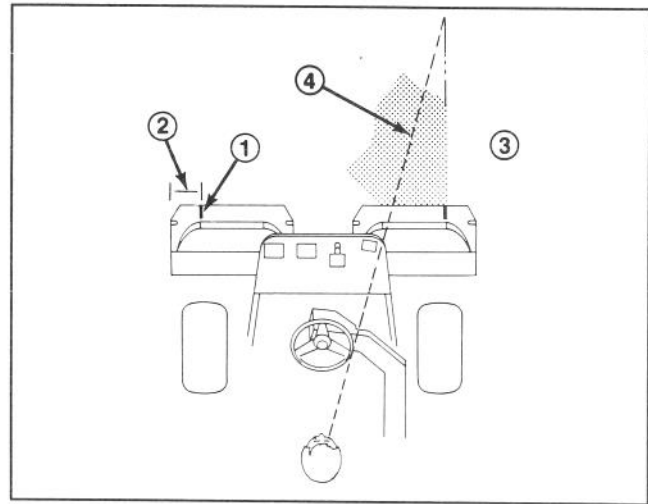

Figure 22
2. Either place a strip of white tape or paint a line onto each basket paralleling the outer edge of each basket (Fig. 22)
3. Overlap a minimal amount with the previous cut on return passes. To assist in maintaining a straight line across the green and keep the machine an equal distance from the edge of the previous cut, establish an imaginary sight line approximately 6 to 10 feet ahead of the machine to the edge of the uncut portion of the green (Fig. 22 & 23). Some find it useful to include the outer edge of the steering wheel as part of the sight line; i.e. keep the steering wheel edge aligned with a point that is always kept the same distance away from the front of the machine (Fig. 22 & 23).